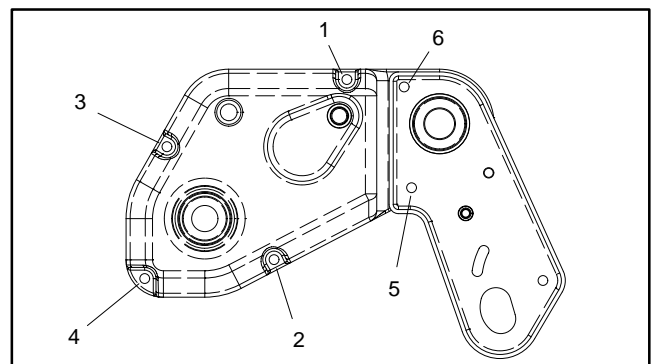

Figure 29
13. Position drive shaft plate to gearbox with three fasteners: two socket head screws (shorter) and one cap screw with lock washer. Install four socket head screws (longer) and washers in remaining holes in gearbox cover. Torque gearbox fasteners from **120 to 140 in-lb (13.6 to 15.8 N-m)** in the sequence shown in Figure 29.